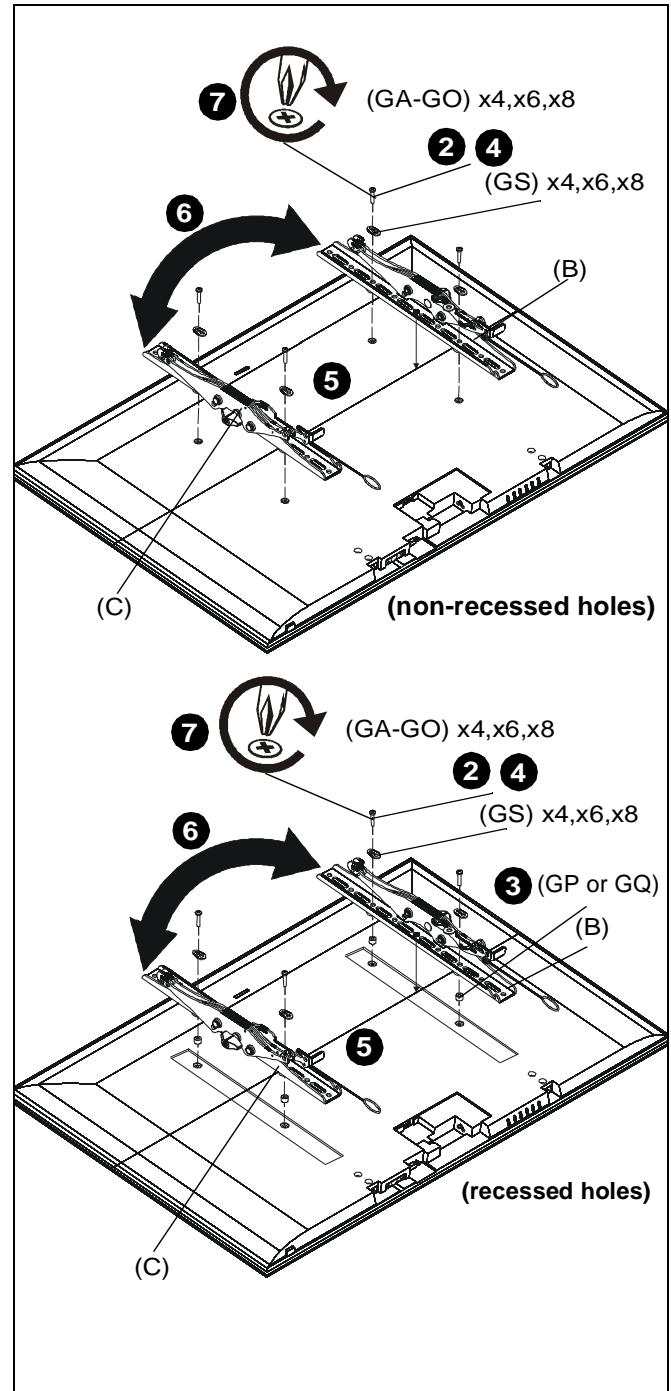

Figure 8
2. Select screw *diameter* by examining hardware (GA-GO) (8mm, 6mm, 5mm, or 4mm) and comparing with mounting holes on display. (See Figure 8)
3. Select spacers: (See Figure 8)
4. Select screw *length*: (See Figure 8)
- Using your hand, insert **SHORTEST** length screw of selected diameter (GA, GE, GI or GL) through bracket (B or C), universal washer (GS), selected spacer (GP or GQ, if required), into display mounting hole. Do NOT thread screw into hole at this time.
5. Place brackets (B and C) on display, ensuring: (See Figure 8)
7. Using Phillips screwdriver, carefully install selected screws through universal washers (GS), brackets (B and C), and spacers (GP or GQ, if required), into display. (See Figure 8)